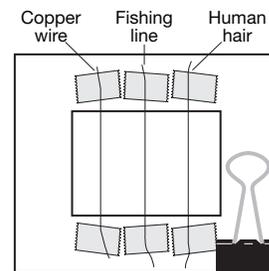

Figure 6.
3. Orient the measurement frame so the longer sides are at the top and bottom. Stretch each material to be measured vertically across the center of the frame opening. Tape each object to the top and bottom of the frame, making sure the object is vertical and taut (see Figure 6).
1. Attach a small binder clip to one bottom corner of the frame as shown in Figure 6 so the frame will stand up.